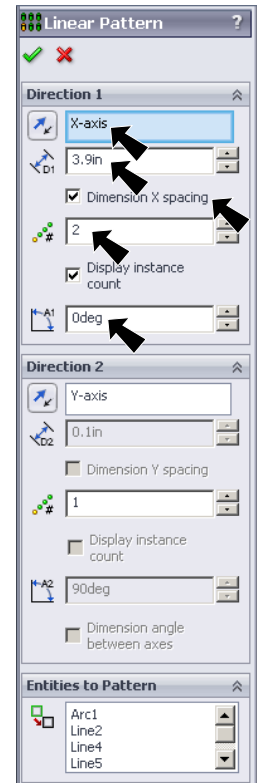

Fig. 22
Step 4. In the Linear Sketch Property Manager set: under x-axis, Fig. 22